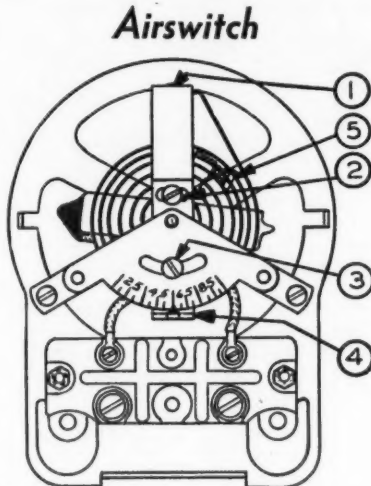

Fig. 1—Drawing showing parts of Airswitch.
The differential or difference between cut-out and cut-in temperatures is adjustable by means of the differential adjusting screw 5, Fig. 1. As the control comes from the factory, it is set for the minimum differential. If the characteristics of the installation are such that the machine starts and stops too frequently, the adjusting screw 5 should be turned to the left as required.
The pointer 4, Fig. 1, is held in position on the scale plate by locking screw 3. To reset pointer, loosen screw 3, reset pointer 4 on scale, then tighten screw 3. If it is desired to prevent tampering of the device by unauthorized persons, a standard wire with lead seal may be threaded through the cover screws to lock cover in position.
With pointer 4, Fig. 1, set to the desired degree on the scale plate, the device under control will be stopped at approximately the indicated temperature. The circulating air around the Airswitch is seldom identical on every installation, and, as a result, the scale can be only approximate for the corresponding temperatures.
1. Remove cover and loosen locking screw 3, Fig. 1, then allow 15 minutes for instrument to cool down to temperature of cabinet or room in which it is located.
5. Hold element mounting bar 1 (see Fig. 1) rigid and loosen adjusting screw 2 about one turn.